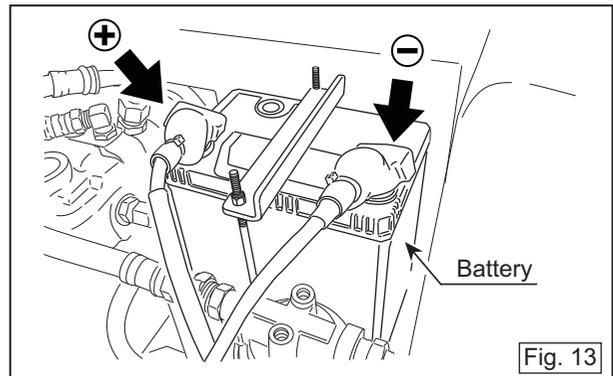

Fig. 13
2. Turn off the key switch and remove the negative terminal from the battery. (Fig. 13)
2. Open the bonnet cover (16) and remove the battery (11). (Fig. 13)